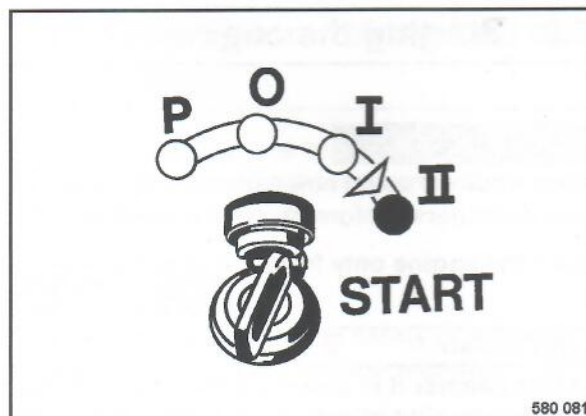

Fig. 30
- Turn the ignition key (Fig. 30) to position "II", the starter will crank the engine.